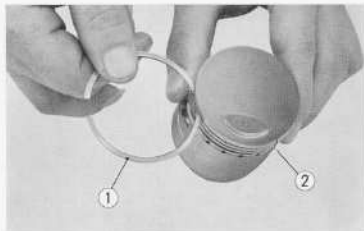

Fig. 3.56 Checking piston ring contact
When new piston ring is installed, a check should be made to assure that the ring fits freely in the groove. This can be done by rolling the the piston ring ① externally in the piston groove ②. (Fig. 3.56)